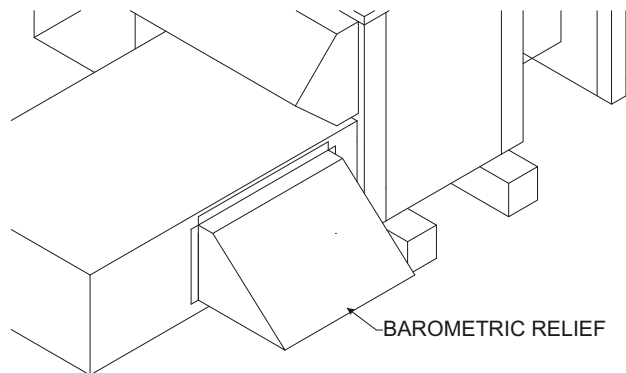

Figure 7
Secure barometric relief damper near Economizer over hole in return air duct using (4) screws provided. See Figure 7.